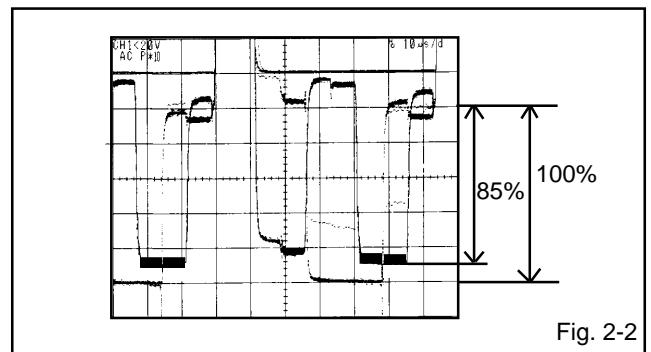

Fig. 2-2
6. Press the VOL. UP/DOWN button on the remote control until the red color level is adjusted to $85 \pm 10\%$ for the white level. (**Refer to Fig. 2-2**)